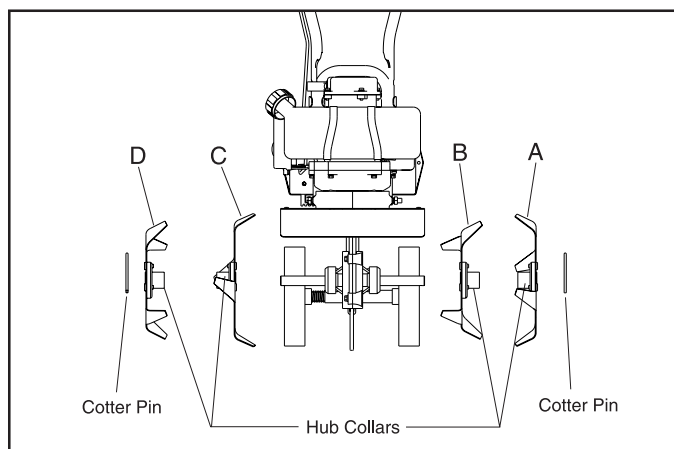

Figure 3 (Frontal View)
2. Slide the outside tine "A" and tine "D" onto each end of the shaft next. The tines should be installed in the correct order so that they are positioned left to right A, B, C, D, as viewed from the user's position on the mini cultivator. Make sure that the hub collars on both the right and left pairs of tines face each other so that there is adequate spacing between the tine blades. See Figure 3.